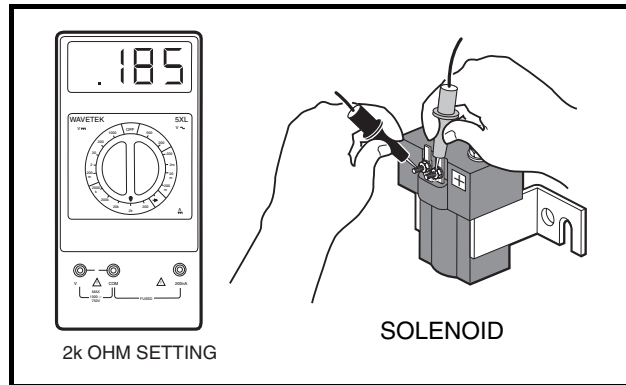

Figure 11-11 Activating Coil Test
5. Place red (+) probe of the multimeter on the positive (+) solenoid terminal. Place the black (–) probe on the other small solenoid terminal. A reading of 180 to 190 ohms should be obtained (**Figure 11-11, Page 11-16**). If not, replace the solenoid.